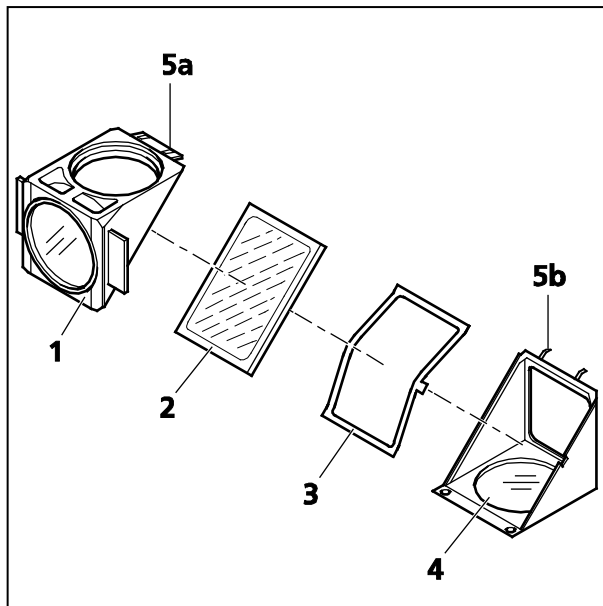

Fig. 3-31 Changing the Beam Splitter
- Tilt the **excitation** module half (Fig. 3-31/1), which is now on top, upward and lift it out of the retaining elements (Fig. 3-31/5b) of the lower **emission** module half (Fig. 3-31/4).
- Take the beam splitter (Fig. 3-31/2) and the spring frame (Fig. 3-31/3) out of the lower module half.
- Remove the old beam splitter and carefully put the new one on the spring frame (Fig. 3-31/3), with the reflecting side facing upward. Then place the two parts together into the lower module half. Make sure that the tongue of the frame sits in the relevant recess of the lower module half.
- Place the **excitation** module half (Fig. 3-31/1) on the **emission** module half (Fig. 3-31/4). The retaining elements (Fig. 3-31/5b) and the eyes (Fig. 3-31/5a) must engage. Hold the two halves together and turn them over, so that they are in the mounting position again.